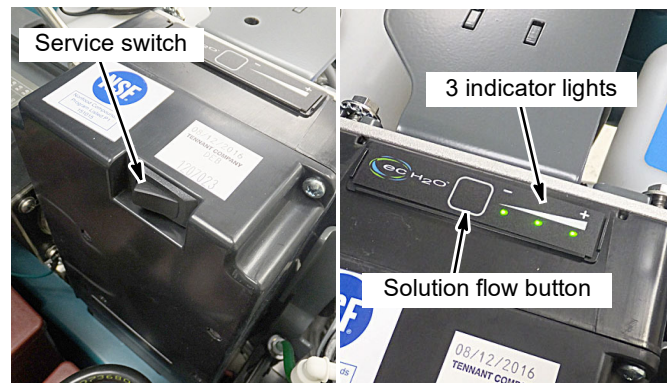

FIG. 95
- b. Press and hold the service switch, located on the ec-H2O module, for 10 seconds. After releasing service switch, the three solution flow indicator lights will begin to (ripple) move back and forth (Figure 95).
- c. Within 5 seconds after releasing the service switch, while the three indicator lights are moving back and forth, quickly press and release the solution flow button located on ec-H2O module (Figure 95). The three indicator lights will then blink three times to indicate timer has been reset. Repeat process if the three indicator lights do not blink three times.